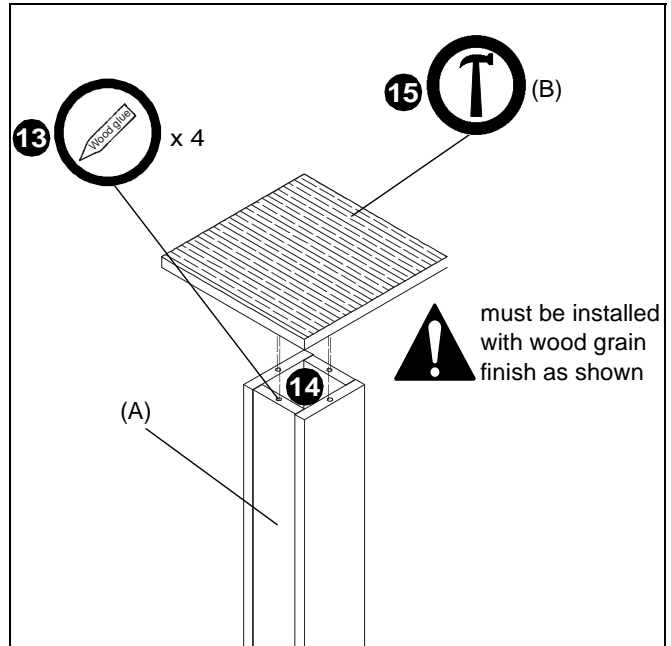

Figure 5
13. Fill the four holes on either end of the center column (A) half full of wood glue. (See Figure 5)
IMPORTANT ! : Holes are not symmetrical! Bottom plate must be installed with the wood grain finish in the direction as shown in Figure 5!
14. Line up dowels (D) installed on top plate (B) with holes on center column (A) and insert dowels into holes. (See Figure 5)
15. Use a hammer to gently tap dowels into holes. Place another piece of wood on top of top plate to prevent hammer marks. (See Figure 5)